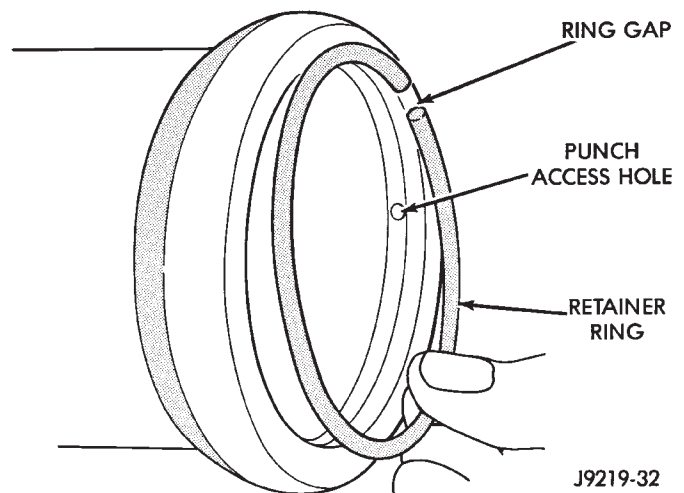

Fig. 7 Installing The Retaining Ring
(1) Lubricate O-ring with power steering fluid and install into the housing.
(2) Install end plug by tapping the plug lightly with a plastic mallet into the housing.
(3) Install retaining ring so one end of the ring covers the housing access hole (Fig. 7).